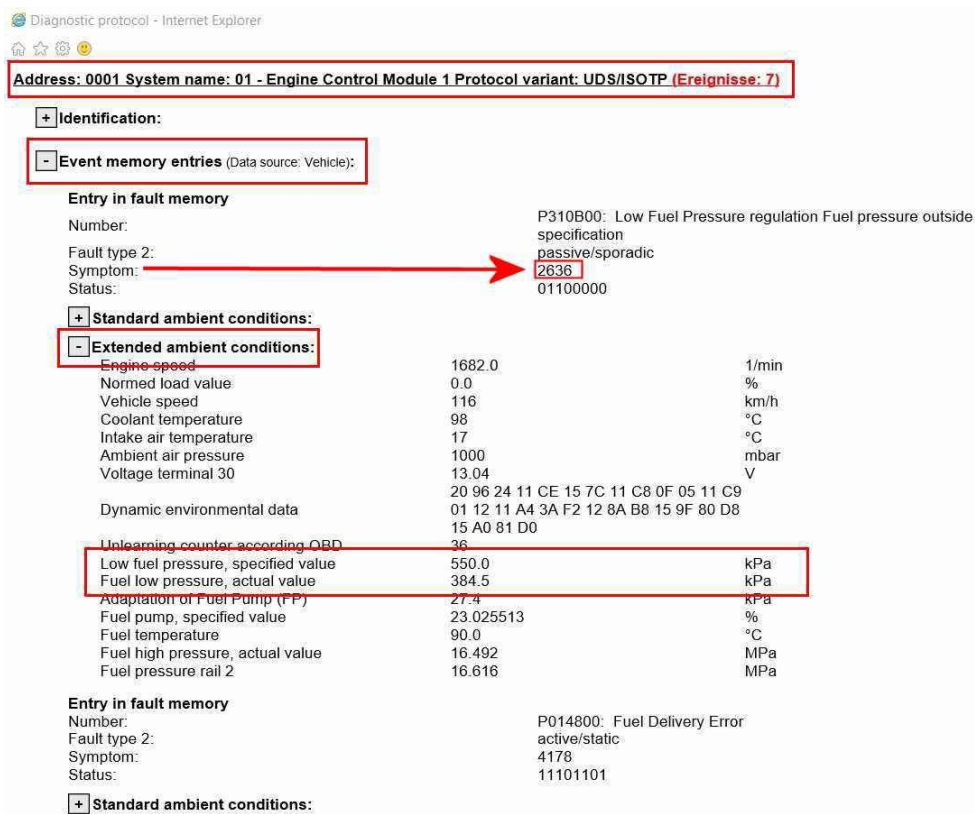

Figure 1
2) Check *"Low fuel pressure, specified value"* and *"Fuel low pressure, actual value"* within the fault memory, refer to ECU *"01 – Engine Control Module 1"* - From *"Extended ambient conditions"* note the values of the *"Low fuel pressure, specified value"* and *"Fuel low pressure, actual value"* as shown in Figure 1.